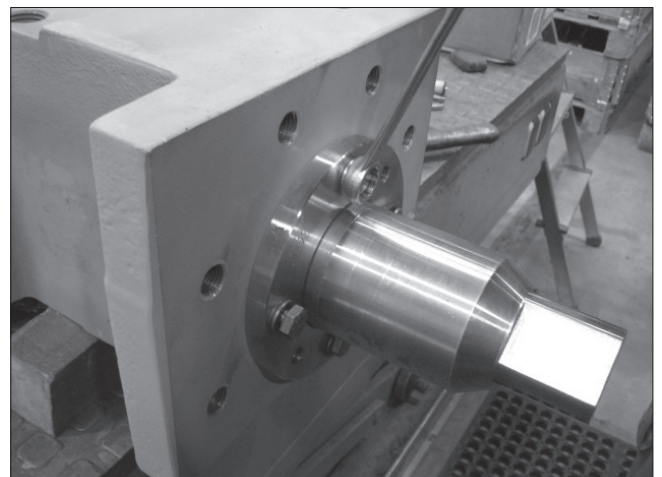

Fig. 42 Unscrewing the bolts on the sealing flange
6. Unscrew the 4 bolts at the sealing flange (actuator shaft-side) using, for example, a 19 mm ring or open-ended spanner (fig. 42). Screw the 4 bolts into the extra holes so that the sealing flange is pressed out of its seat (see fig. 43). The clamping plate that is held in place with a locking shim and screws can now be unscrewed and taken out (see fig. 44).